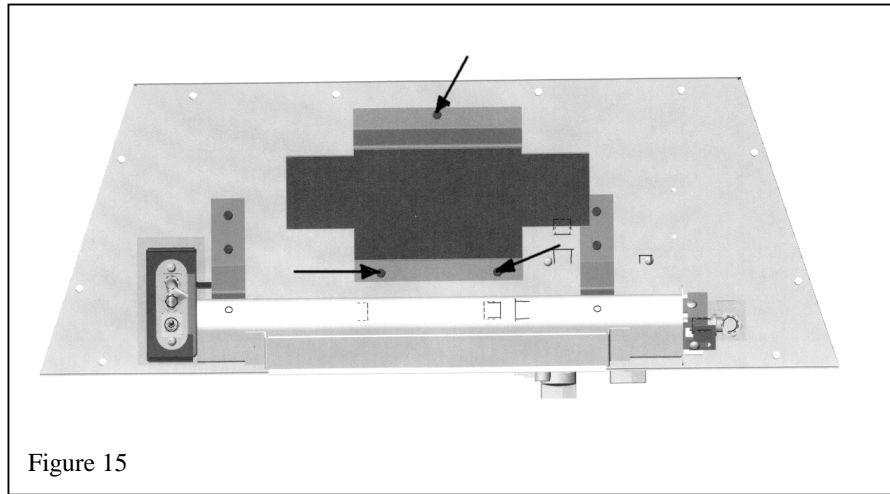

Figure 15
1. Remove the log support bracket from the burner module plate. See figure 15.